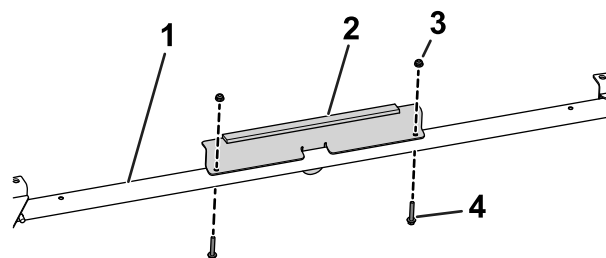

Figure 37
11. Use 2 hex-head flange bolts (1/4 x 1-1/2 inches) and 2 nuts (1/4 inch) to secure the front support to the front crosslink (Figure 37).